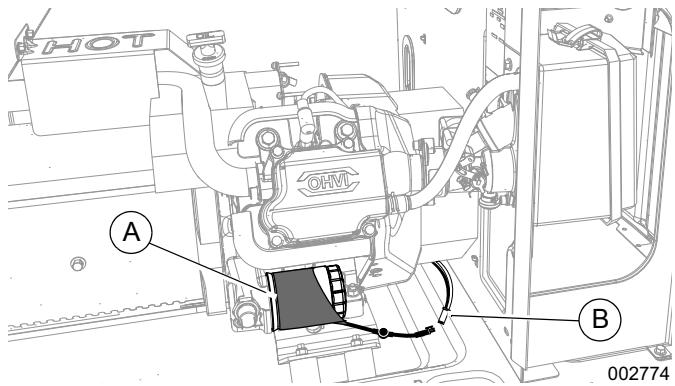

Figure 3. Installing the Oil Filter Heater (9 kW)
2. See **Figure 3**. Install new oil filter and tighten by hand until seal contacts sealing surface. Then, hand-tighten oil filter an additional full turn. Slide oil filter heater (A) over the oil filter as shown, with the connector plug at the bottom.